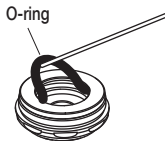

Fig. 31
- 4) Use the needle to remove the O-ring in the head cap. (Fig. 31)